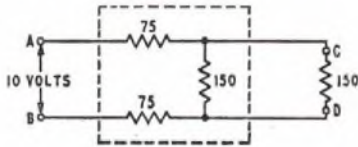

Fig. 2
(b) In the circuit shown in Fig. 2 an a.c. source maintains 10 volts r.m.s. across AB . Calculate
- (ii) the ratio in decibels between the power in the 150-ohm resistor in Fig. 3 and the 150-ohm resistor CD in Fig. 2
(b) The circuit of Fig. 2 is equivalent to that in the sketch because the two 150 ohm resistors are in parallel.